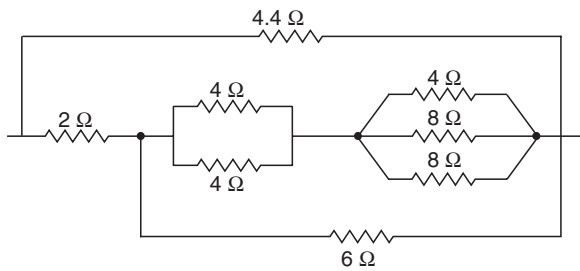

Fig. 59
15. Find the resistance of the circuit shown in Fig. 59.